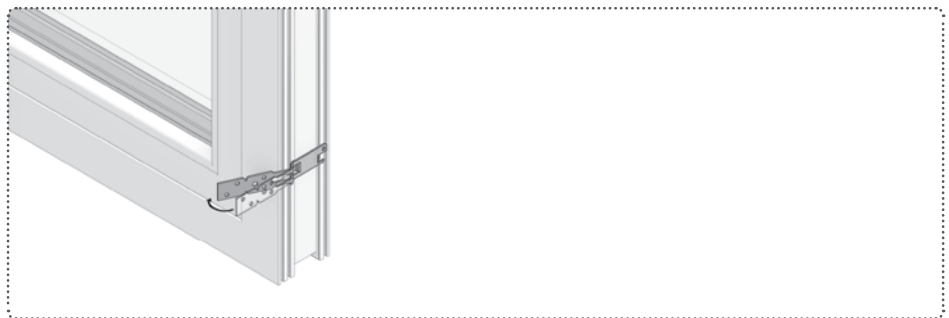
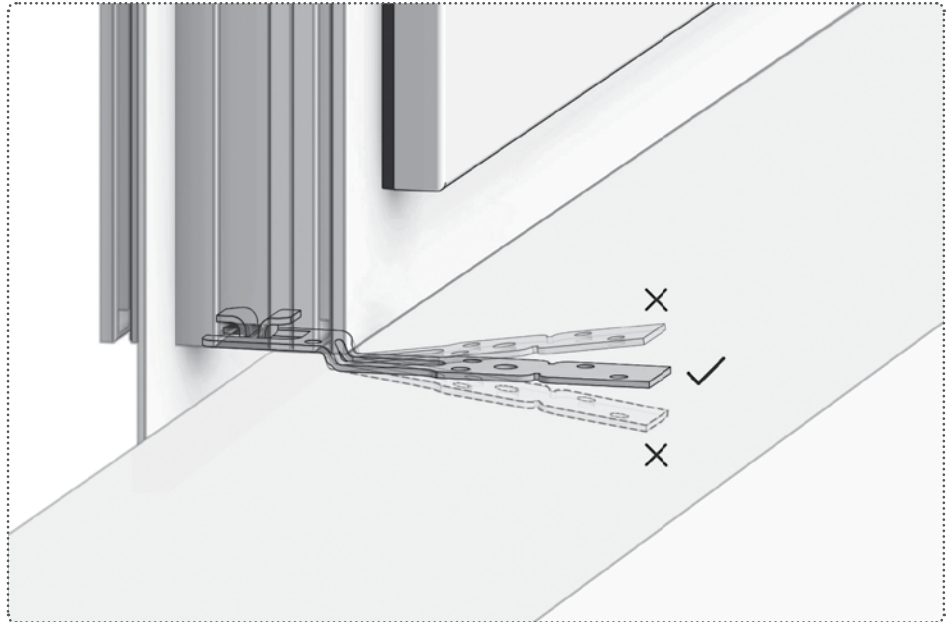

Figure 50. Bending strap anchors towards frame centre.
Figure 57. Bending strap anchors to fit opening.
1. Bending the anchor to suit the clearance between the frame and the rough opening is a two-step process: first, pre-bend the anchor towards the frame as shown in [Section 5.2.3 on page 42] and in [Figure 50 on page 44] , second, bend it back against the side of the rough opening [Figure 57 on page 50] .